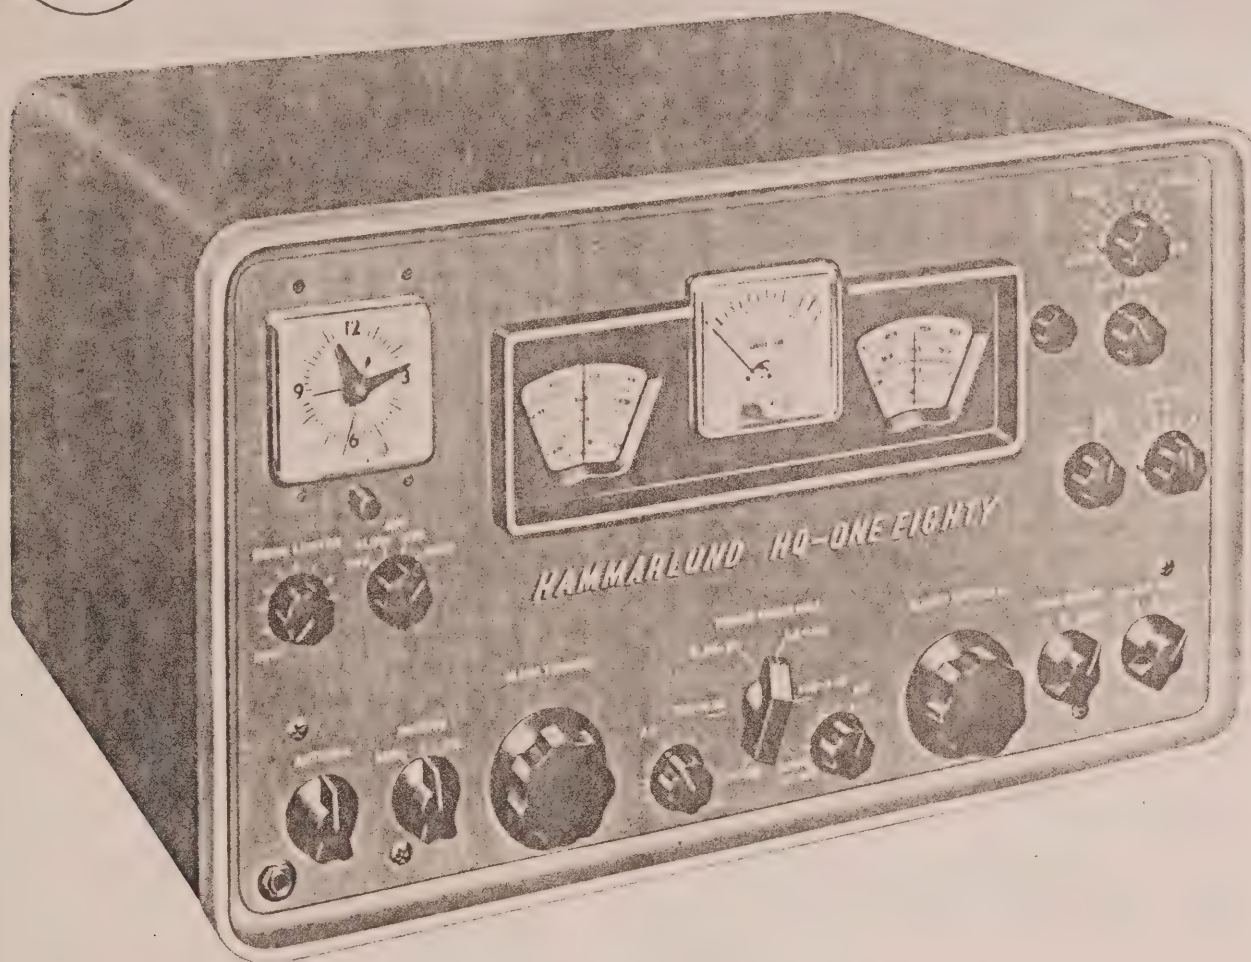

Figure 1. The HQ-180 Communications Receiver
4. Solder the center conductor and shield braid of the coax cable to L4 (using a small iron) as shown in Fig. 1.